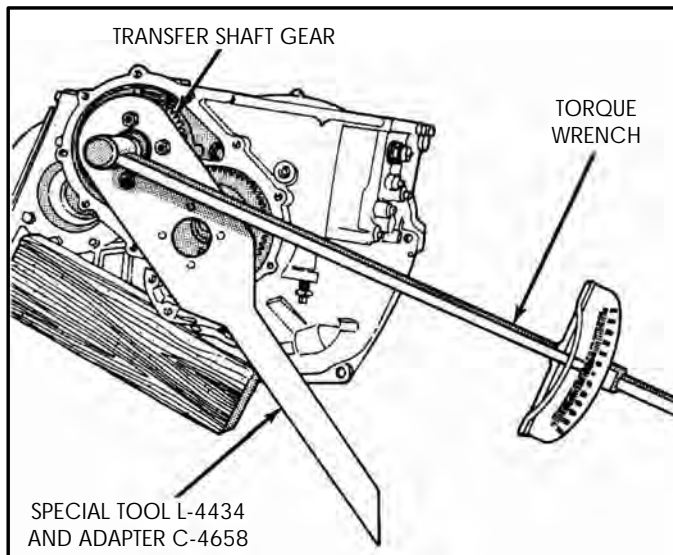

Figure 204
2. Install transfer shaft gear and bearing assembly and torque the nut to 271 N·m (200 ft.lbs.), as shown in Figure 204.
9. Reinstall transfer gear and bearing assembly, washer and retaining nut and torque the nut to 271 N·m (200 ft.lbs.), as shown in Figure 204.